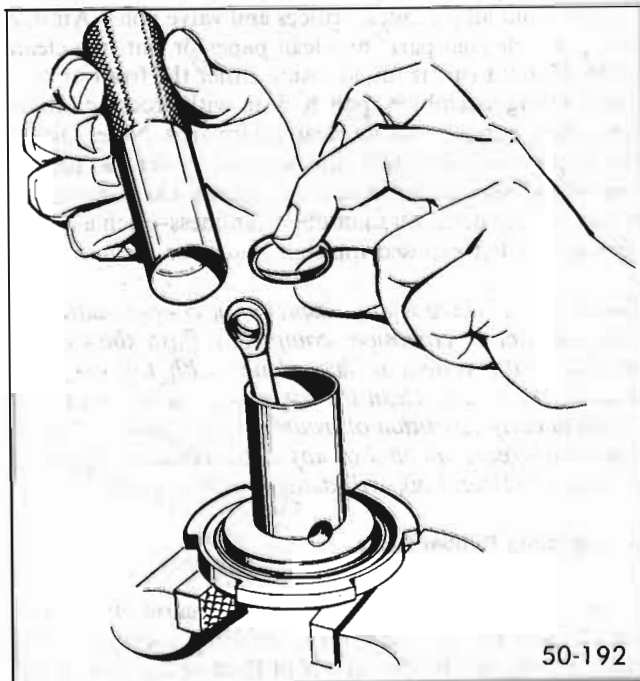
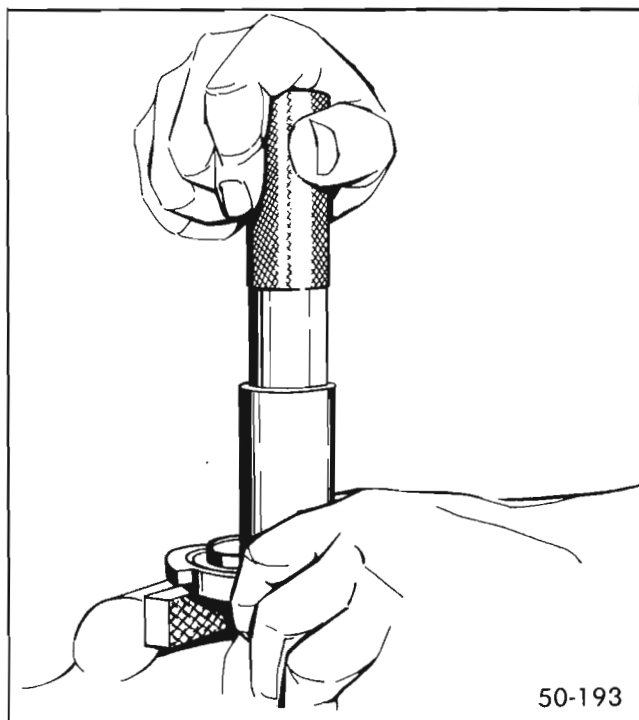

Figure 50-85 Installing Floating Control Valve Retainer With Installer J-23175
Figure 50-86 Seating Floating Control Valve Assembly With Installer J-23175
5. Place the I.D. of the floating control valve retainer on the O.D. of floating control valve retainer installer J-23175. See Figure 50-85. Place over the push rod so that the closed side of the retainer seats on the floating control valve. With Installer J 23175, manually press the retainer and floating control valve assembly to seat in the primary power piston tube. See Figure 50-86.